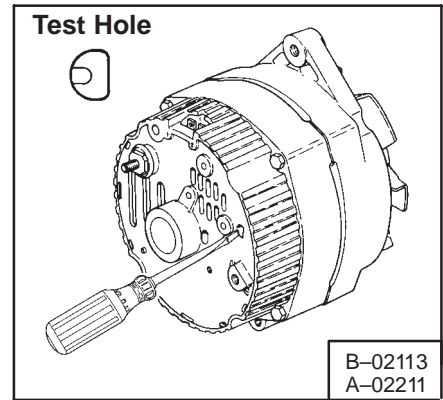

Fig. 6-4 To Check The Regulator
3. With the engine running at full throttle, connect the alternator field to chassis with a small screwdriver or wire (Fig. 6-4).